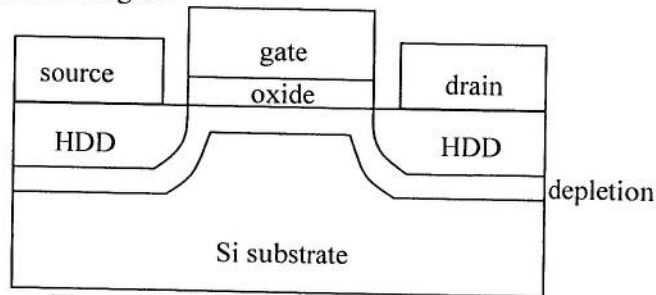

Figure 1.1: Cross section of a MOSFET.
- b) Figure 1.1 gives a cross section of a MOSFET with the depletion region underneath the gate oxide and HDD (high doping density) areas. Redraw this sketch and clearly indicate the areas in which the charge is shared between the ohmic contacts and the gate.